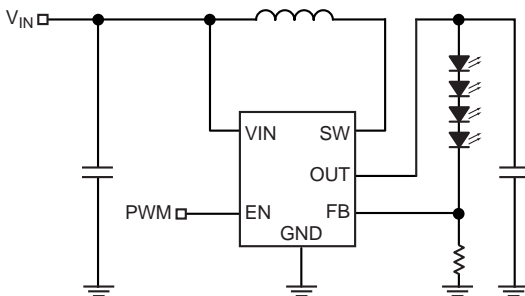

Figure 1. PWM Dimming Method
1. PWM dimming control is implemented by applying a PWM signal on EN pin as shown in Figure 1. The MIC2289 is turned on and off by the PWM signal. With this method, the LEDs operate with either zero or full current. The average LED current is increased proportionally to the duty-cycle of the PWM signal. This technique has high efficiency because the IC and the LEDs consume no current during the off cycle of the PWM signal. Typical frequency should be between 100Hz and 10kHz.